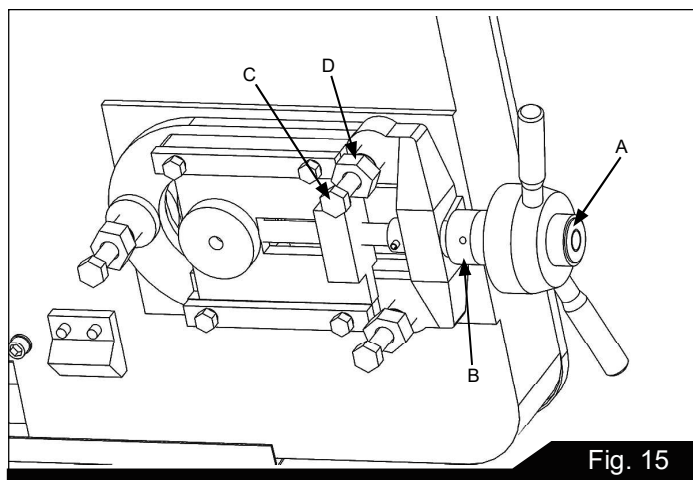

Fig. 15
Blade tension has been preset at the factory; however if the tension should need to be increased, this can be accomplished by turning the handwheel (A) clockwise until the tension limiter (B) slips. Please note that one does not need to press the handwheel, simply turn. For purposes of proper blade tracking, the back of the blade should be located against the flange of the blade wheel. If it is not, the tracking can be adjusted by loosening the screw (C) in Fig. 15, and adjusting screw (D) in Fig. 15, until the blade is tracking properly. When adjustment is complete, retighten screw (C).